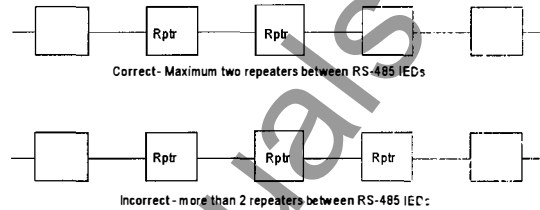

Figure 13. Network illustrating Modbus Rule 9.
9. There may be no more than two RS-485 repeaters between any two RS-485 IEDs. Figure 13 illustrates this rule.